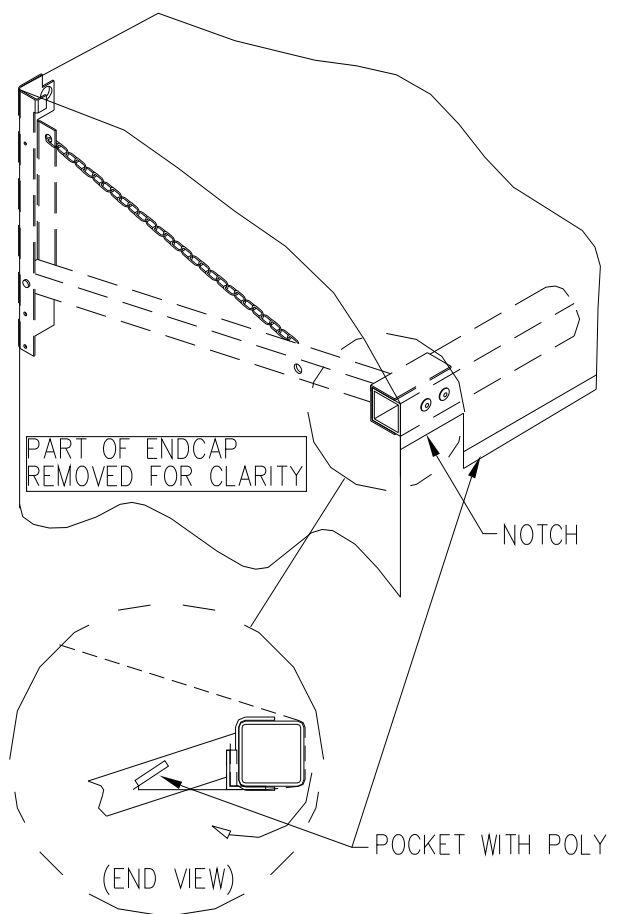

FIGURE 13
8. Wrap the canopy cover front bar pocket with the poly strip inside, down and around the bottom of the front bar. The pocket/poly will wrap back up the back inside face of the front bar and tuck behind the steel angle welded at back. The pocket is notched to fit around the side arm bracket and the edge of the pocket should line up with the edge of the steel angle on both ends about 1/2" away from the side arm bracket. Make sure that the pocket/poly strip combination gets seated all the way down in the space between angle and front bar. (See Figure 13)